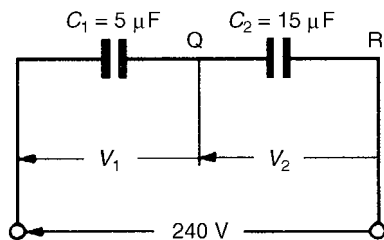

Figure 6.10
- (a) $2 \mu\text{F}$ in parallel with $3 \mu\text{F}$ gives an equivalent capacitance of $2 \mu\text{F} + 3 \mu\text{F} = 5 \mu\text{F}$. The circuit is now as shown in Fig. 6.10.
- (b) The charge on each of the capacitors shown in Fig. 6.10 will be the same since they are connected in series. Let this charge be Q coulombs.